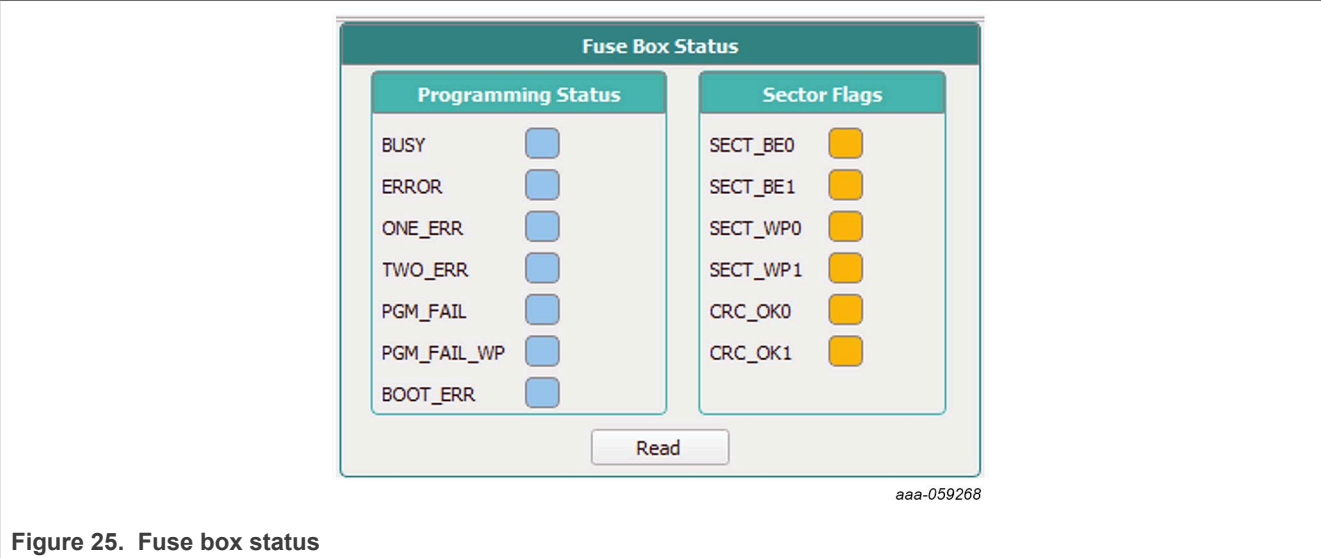

Figure 25. Fuse box status
1. To verify proper configuration of the device, stop the communication with the device, disconnect and reconnect the USB cable, and establish connection with the board again. This process is needed to ensure the PMIC has a complete power cycle and the new OTP configuration is loaded in the Mirror registers. Check the **Fuse Box Status** again in TBB mode. It should be the status shown in Figure 25. If the communication does not work, check whether CRC or Secure write is enabled.